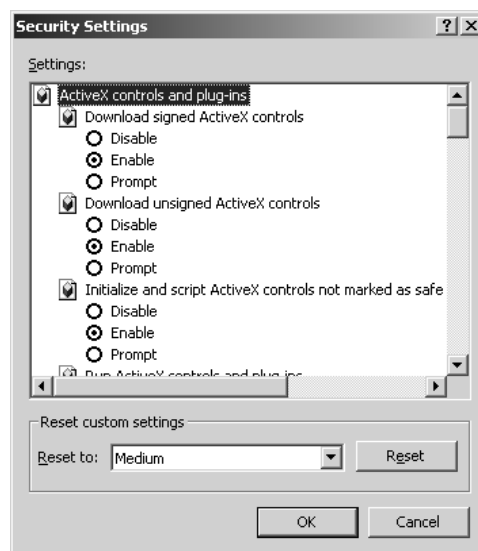

Figure 2-5
- (3) Click “Custom Level” to pop up the following interface in Figure 2-5: